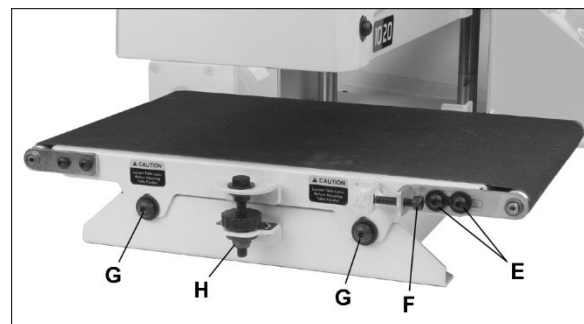

Figure 9-3
3. Loosen two screws (E, Figure 9-3) and turn take-up screws (F, Figure 9-3) on both sides of conveyor to relieve belt tension, and slide the driven roller fully inward.
4. Loosen two table locking screws (G, Figure 9-3).
5. Remove lock nut (H, Figure 9-3).